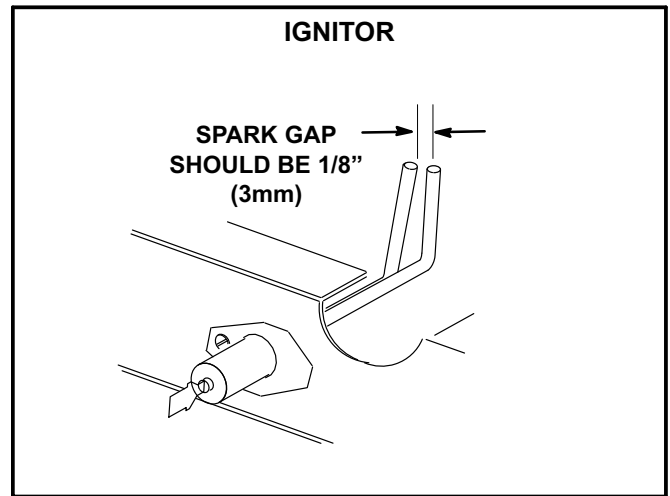

FIGURE 31
- 4- Locate the ignitor under the left burners. Check ignitor spark gap with appropriately sized twist drills or feeler gauges. See figure 31.